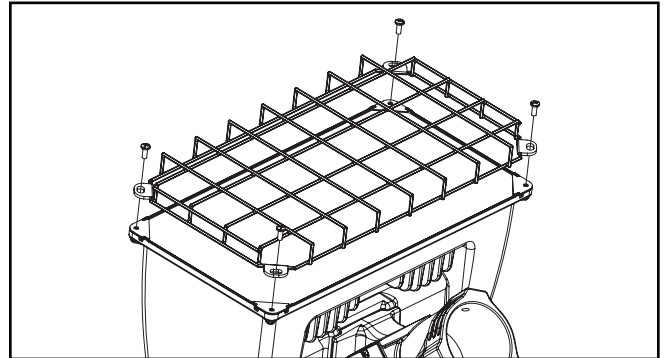

Figure 5.
Wire Guard (Figure 5.)
1. Loosen and remove the existing (4) 10-24 Philips head screws on the face of the fixture and retain for future reference.
2. Align wire guard on top of lens clips matching the four existing holes. See Figure 5.
3. Retighten (4) 10-24 Philips head screws from step 1 to the face of the fixture.